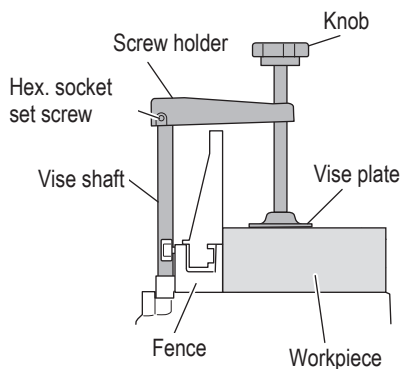

Fig. 31
- (1) The vise assembly can be mounted on the base.
- (2) Turn the upper knob and securely fix the workpiece in position (Fig. 31).